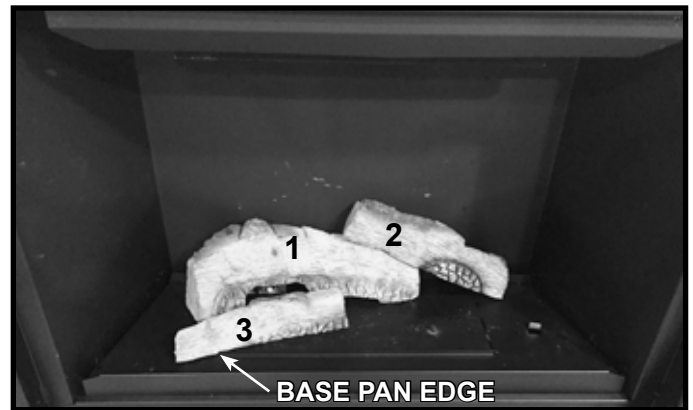

Figure 6. Install Left Front Base Log
4. Locate and install the left front base log (3) by installing the "right" end over the left burner pin and pressing "down" to engage log pin. The "left" side of this log will be positioned by the front left hand bend tab. The face of the log should contact the base pan edge. See Figure 6.